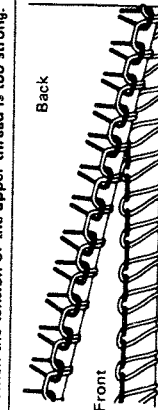

Figure 19
(2) When the tension of the upper thread is too strong (Figure 19), loosen the upper thread tension adjuster.